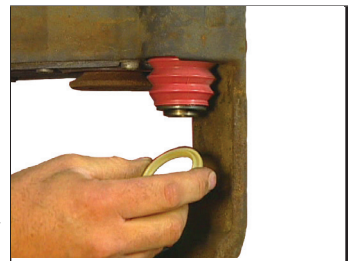

Figure 83 – Place the Retaining Ring onto the Groove in the Guide Pin
4.6.35 See *Figure 83*. To install the guide pins, first lubricate both guide pins with the white grease supplied. Insert the guide pins into their respective bores with the grooved end towards the bellows.